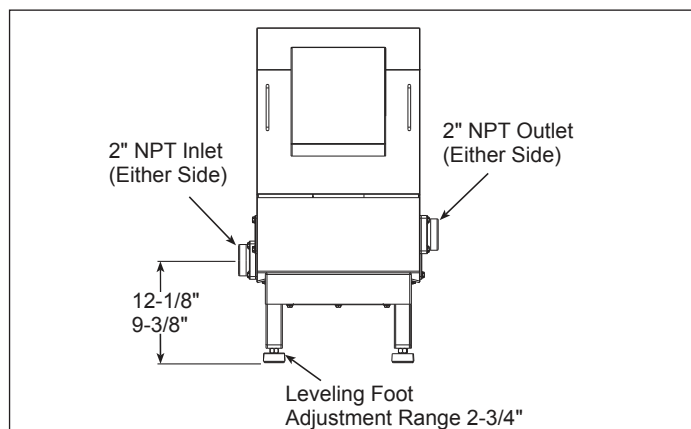

Figure 22. Inlet/Outlet
1. Disconnect WasteXpress from inlet and outlet plumbing connections (Figure 22).
2. Remove four (4) slotted hex head screws and lock washers securing flange in place on side of cabinet.
4. Install new gasket and flange. Secure with four (4) slotted hex head screws and lock washers.
6. Turn unit upright and reposition in place. Extend foot by adjusting each foot screw until unit is level (Figure 22).